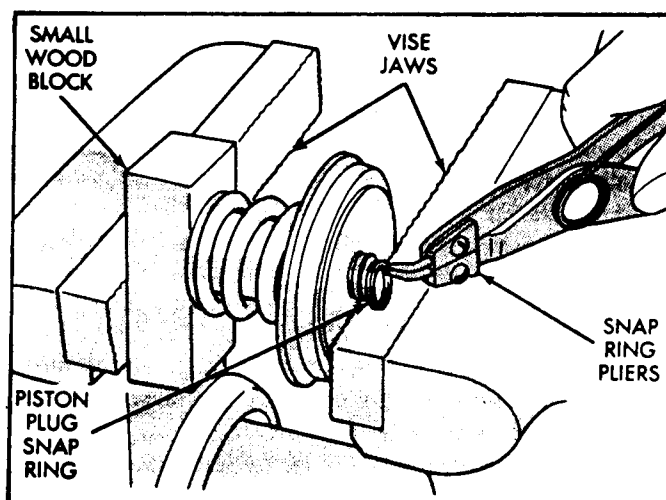

Figure 40
23. Compress cushion spring in vise, and install the snap ring on piston plug, as shown in Figure 40.